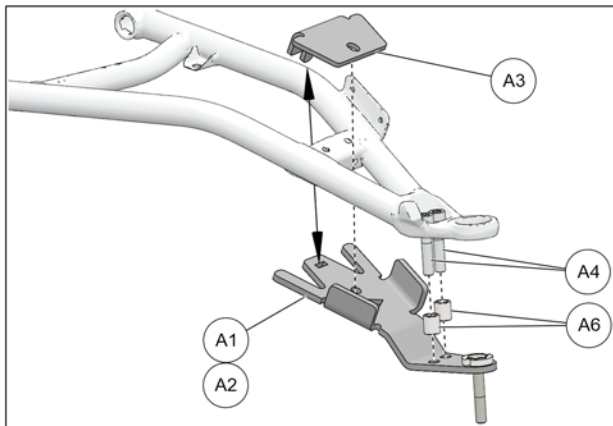

Fig. 18
- Slide bushings (A6) over socket head screws (A4). Position bottom part of anchor bracket (A1-A2) under lower suspension arm, with screws (A4) inserted through bracket holes. Position top part (A3) over suspension arm and insert tenon in mortise cut in bottom part. See Fig. 18